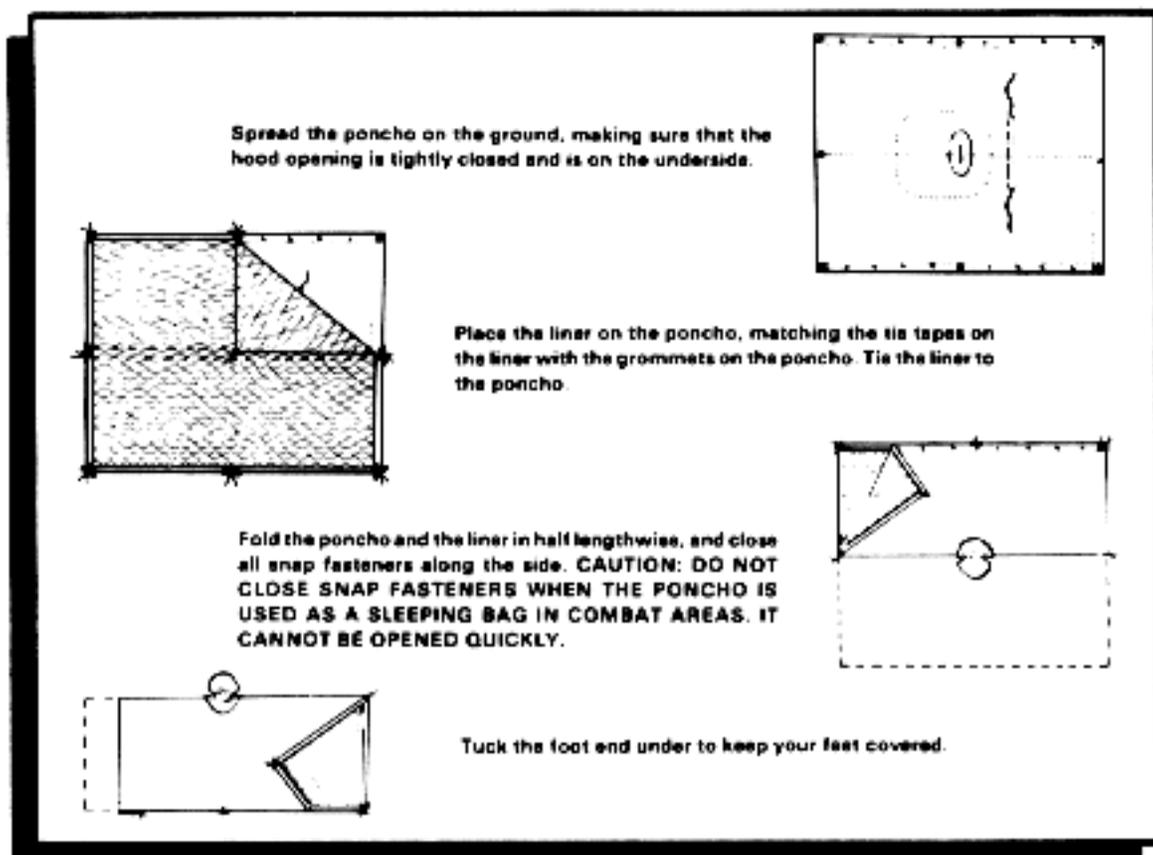

Figure 3-8. Attaching poncho liner to poncho.
*Use.* The poncho liner may be used as a blanket or with the poncho as a sleeping bag when the temperature is 50°F or above. Figure 3-8 shows how to attach the liner to the poncho.